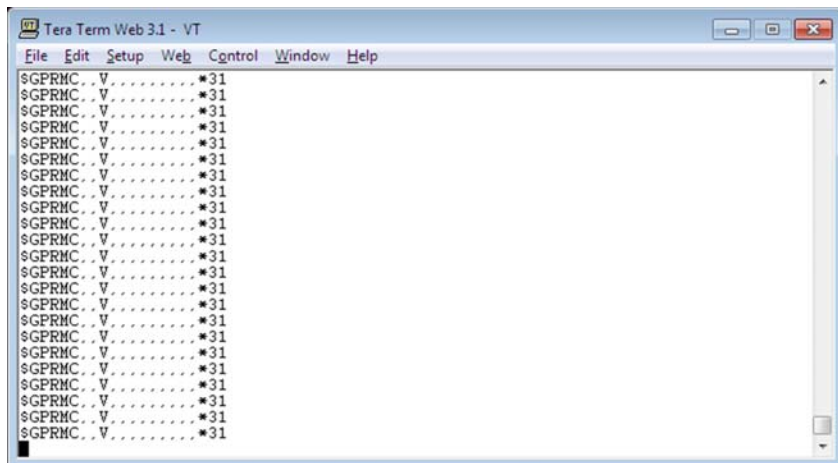

Figure 35. Tera Term New Connection Window
- (6) After the connection is made, the NMEA string will appear as show in Figure 35.